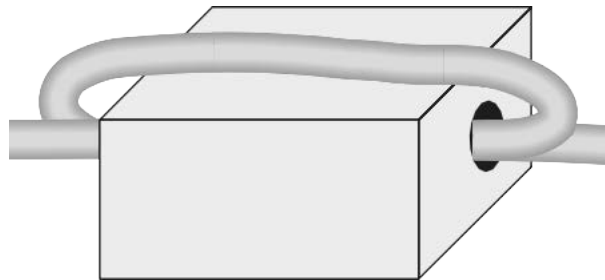

Figure 15: DUT Cable with Clamp-on Ferrite
3. Wrap the DUT cable with multiple turns around the clamp-on ferrite, see Figure 15.